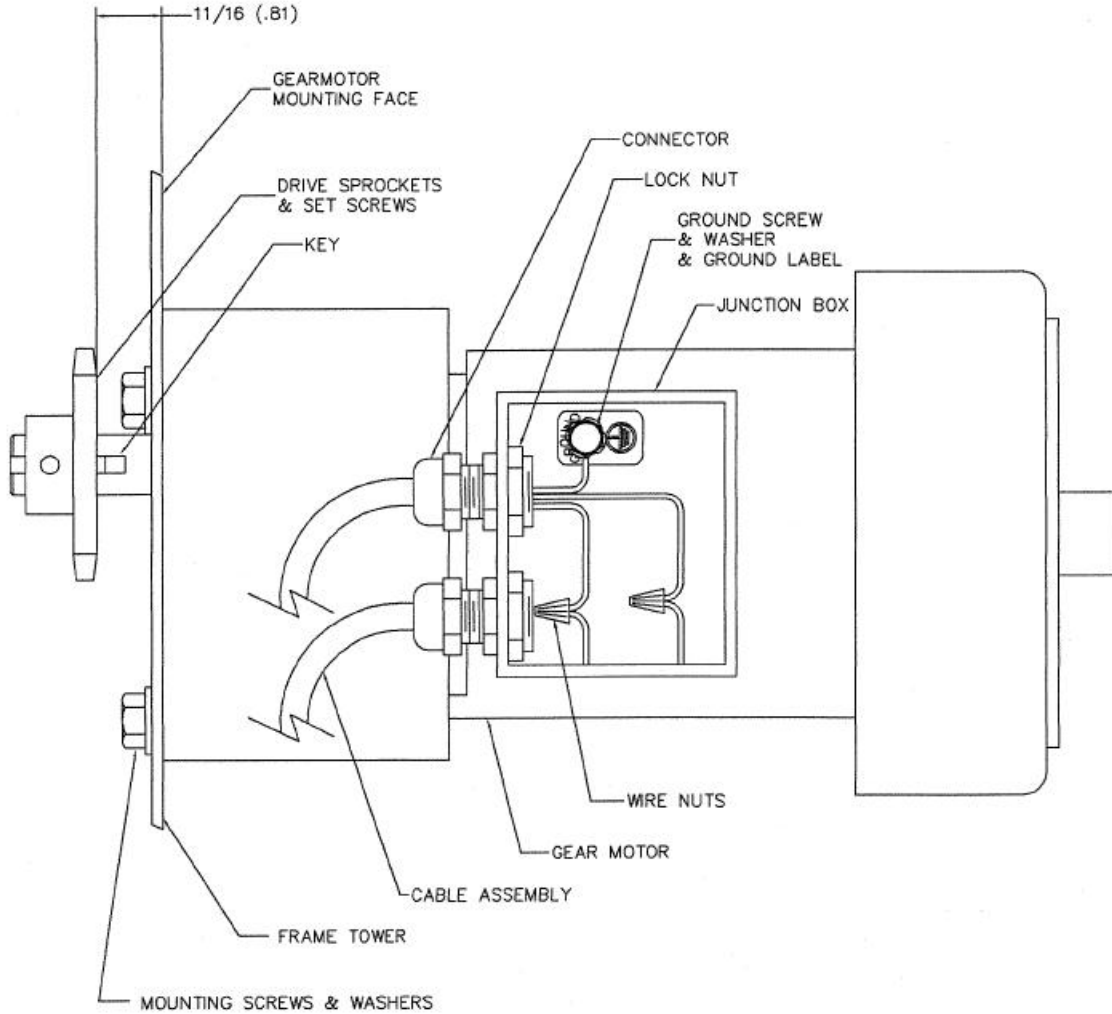

Figure 24
9.1.8 Gear Motor Removal and Replacement (Continued) (See Figure 24)